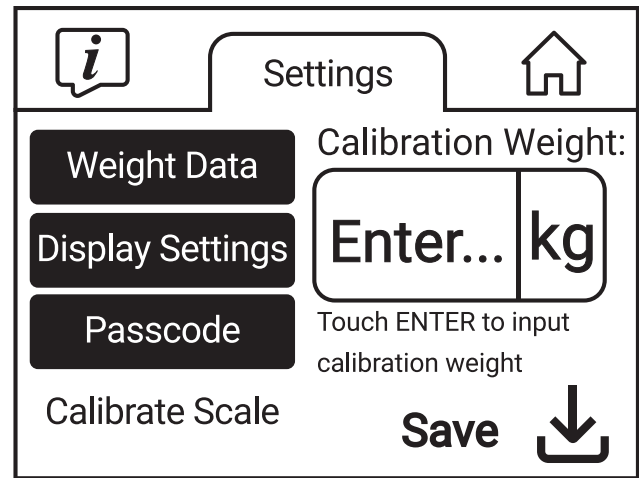

Figure 10
2. When the scale completes zeroing, the “**Calibration Weight**” screen displays (Figure 10).